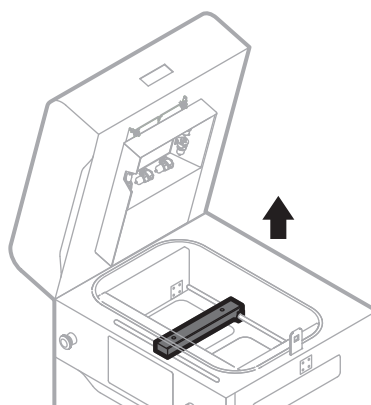

Fig. 2 Remove the black Recoater cover.
8. Gently remove the black cover from the Recoater and put it away for later (fig. 2).